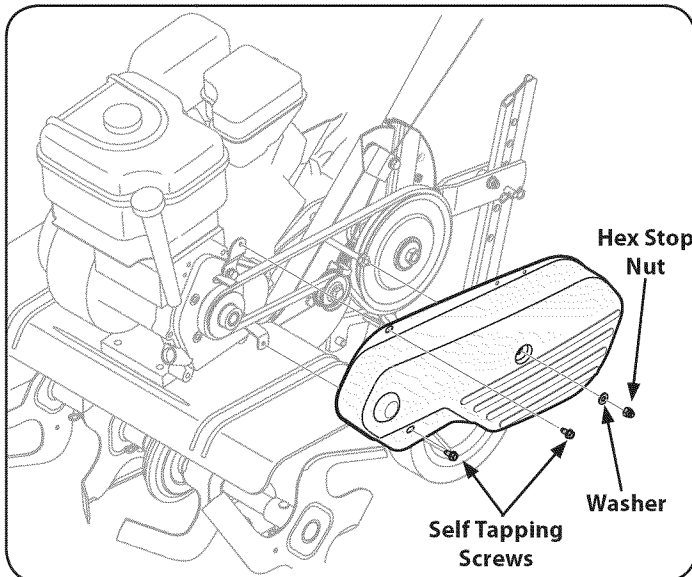

Figure 25
7. Remove the belt cover from the left side of the tiller by removing the two self tapping screws and hex stop nut and washer. See Figure 25.